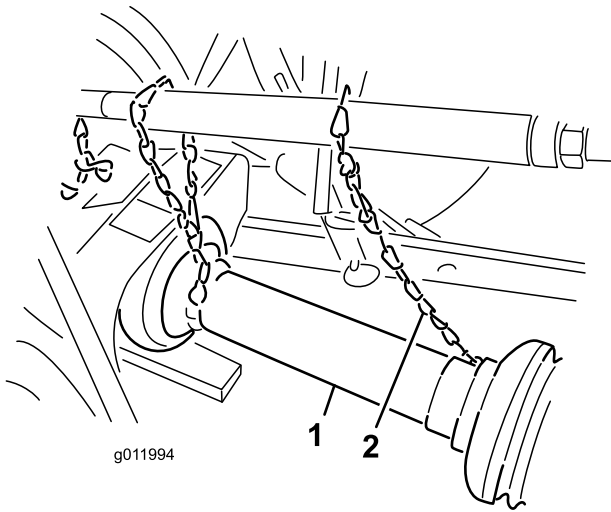

Figure 7
5. Connect the guard safety chains from the power shaft sections to the welded clips on the link arms or to the PTO guards (Figure 7).